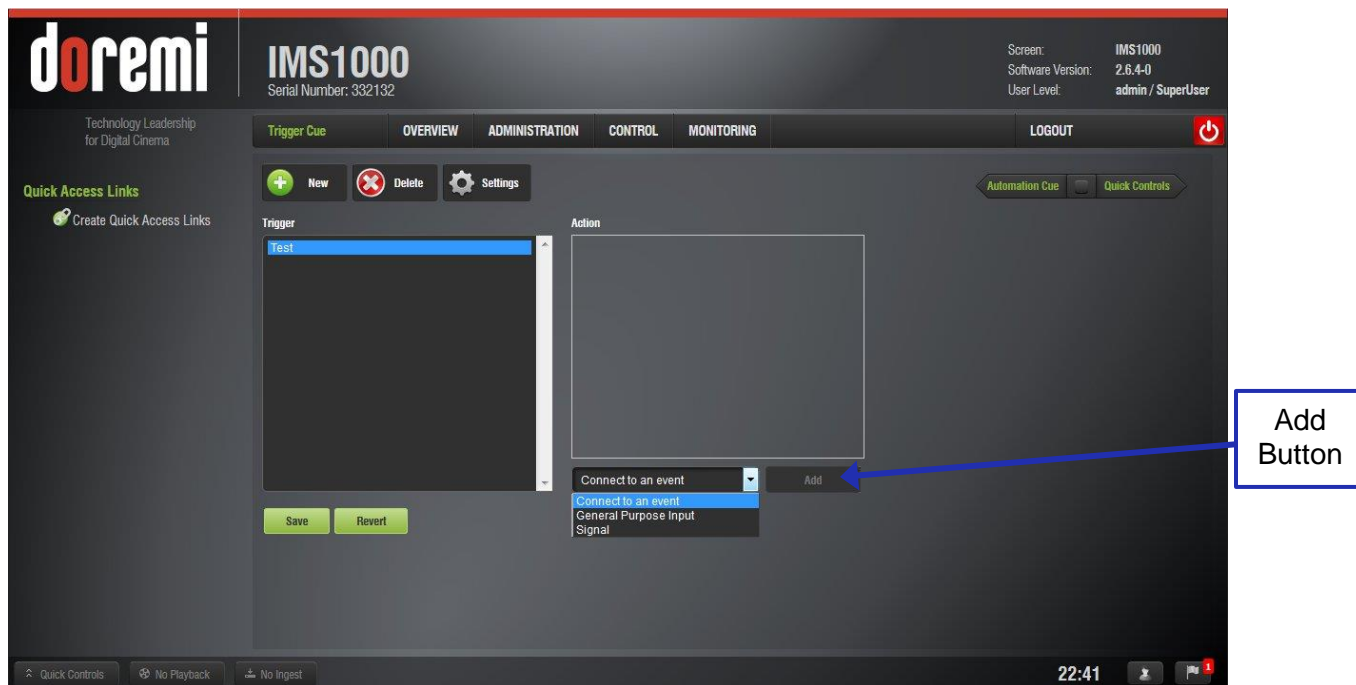

Figure 150: Events Window
- To connect a Trigger Cue to an event, select it in the Trigger window and click the Connect to An Event drop-down menu (Figure 150):
- To connect the selected Trigger Cue to a GPI event, click the General Purpose Input option and click the Add button (Figure 150).
- Click the Connect to an Event button from Macro Editor's Trigger Cue tab. The Connect to an Event drop-down window will appear (Figure 150).